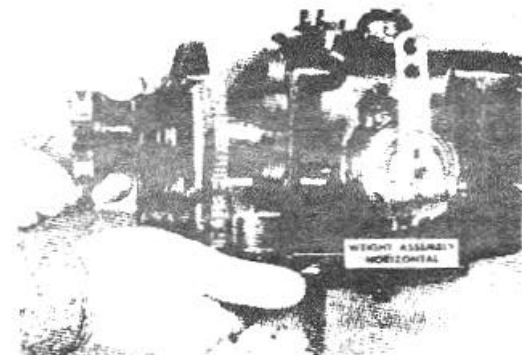

Figure 4-71. Placing front cover in position.
15. Place front cover assembly in position. The governor weight assembly must be in a horizontal position with the weights held in; the governor plunger driver also must be horizontal. The drive shaft should be rotated slowly as the tachometer gears come in to mesh. Fig. 4-71.